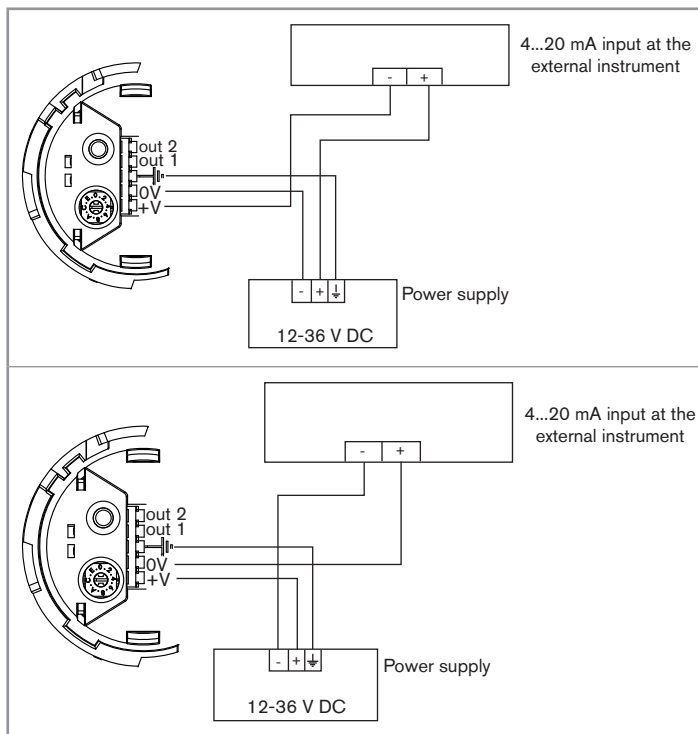

Fig. 16: Possible connections of the 4...20 mA current output on a device variant with cable gland.
- Connect the 4...20 mA output (see Fig. 16).